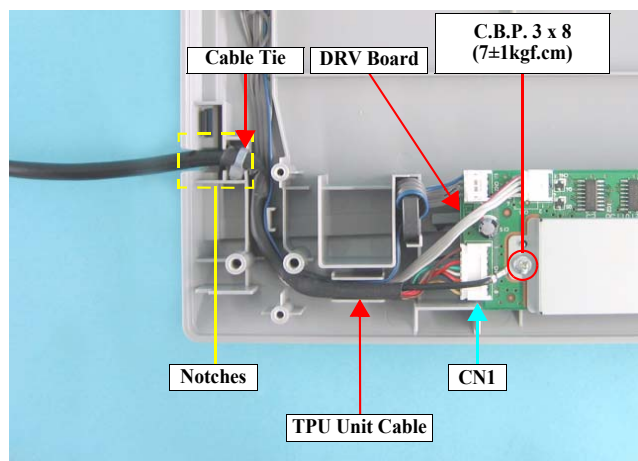

Figure 4-31. Removing the TPU Unit Cable (2)
- When installing the TPU Unit Cable, put the cable and the cable tie into the notches as shown in Figure 4-31.